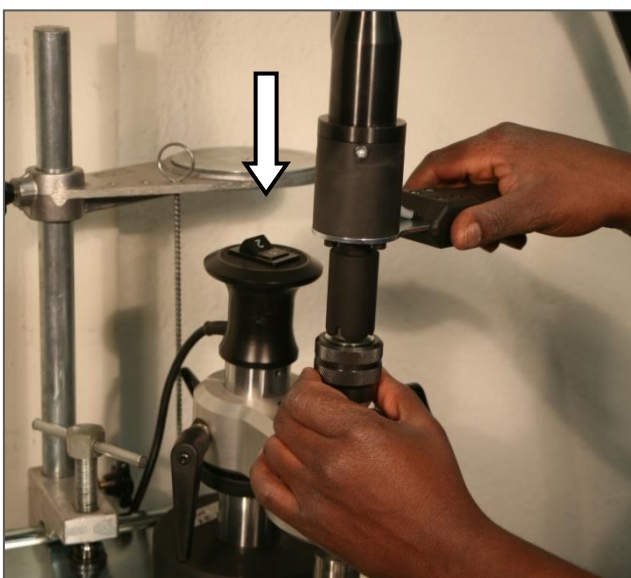
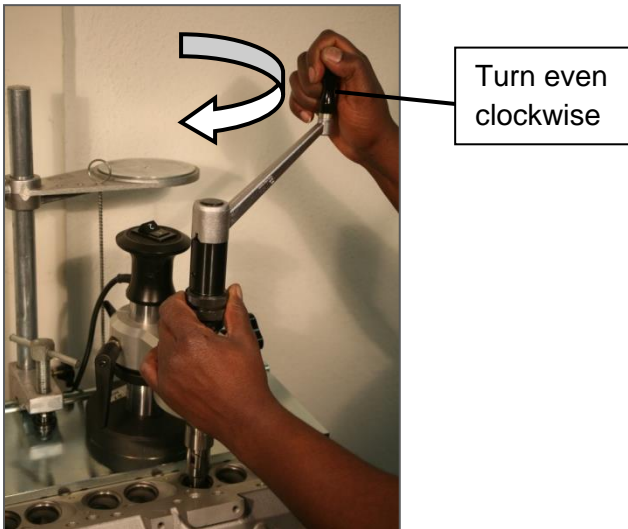

Fig. 24
Fig. 26
20. Put the Vario Drive on the adapter until the pin engages in the shaft. Place your left hand around the advancing device. With your right hand hold the handle of the Vario Drive firmly. Fig. 24
22. Push the knob on the handle of the Vario Drive (the unit will start after a delay of one second). Turn the advancing device slowly (The formtool will be driven downwards) until the formtool starts cutting. Fig. 24 / Fig. 26
23. Continue the processing while holding the handle firmly. Turning the advancing device regularly until the formtool has completely refaced the seat as well as the corrections all around. Fig. 24 / Fig. 26
- i** Alternatively you may work with the manual crank handle (Fig. 26) instead of the Vario Drive.